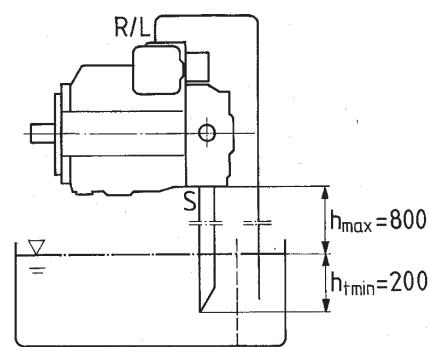

Fig. 4
b) When the minimum fluid level lies under the pump upper edge then: drain port and possibly port »S« has to be piped, see fig. 4. Conditions are as per point 1.2.
a) For installation above a tank see fig. 4.